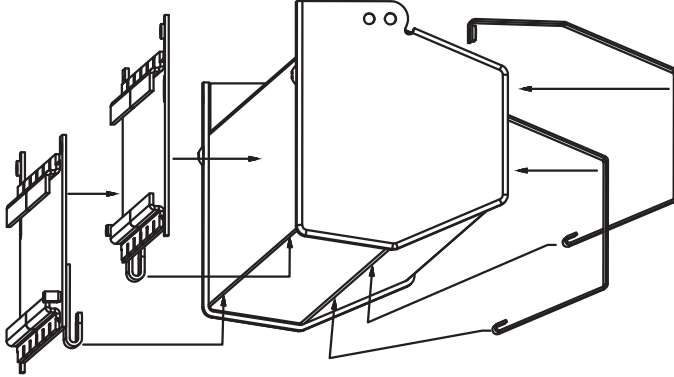
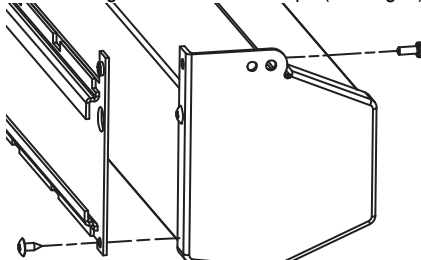

Figure 1
Figure 2
- ② Place front brackets on screen case, making sure the lower curled edge engages the screen case (see Fig. 1).
- ③ Place screen case on clean, steady surface with the back of the screen case facing up.
- ④ Remove the bottom screw from each endcap (see Fig. 2).
- ⑤ Attach Case Attachment Brackets to screen case by re-using endcap screws. Also use provided 10-32 x 1/2" PPH Zinc Machine Screws, attaching through the wall mounting holes on the endcaps (see Fig. 2).
Please Note: Make sure to hook bottom of Case Attachment Bracket under the bottom of the screen case (see Fig. 1).
- ③ Place front brackets on screen case, making sure the lower curled edge engages the screen case (see Fig. 1).
- ④ Place screen case on clean, steady surface with the back of the screen case facing up.
- ⑤ Remove the bottom screw from each endcap.
- ⑥ Attach Case Attachment Brackets to screen case by re-using endcap screws. Also use provided 10-32 x 1/2" PPH Zinc Machine Screws, attaching through the wall mounting holes on the endcaps (see Fig. 2).
- Please Note: Make sure to hook bottom of Case Attachment Bracket under the bottom of the screen case (see Fig. 1).**
- ⑦ Attach Case Attachment Brackets to front brackets using 10-32 x 1/2" PPH Zinc Machine Screws (provided).